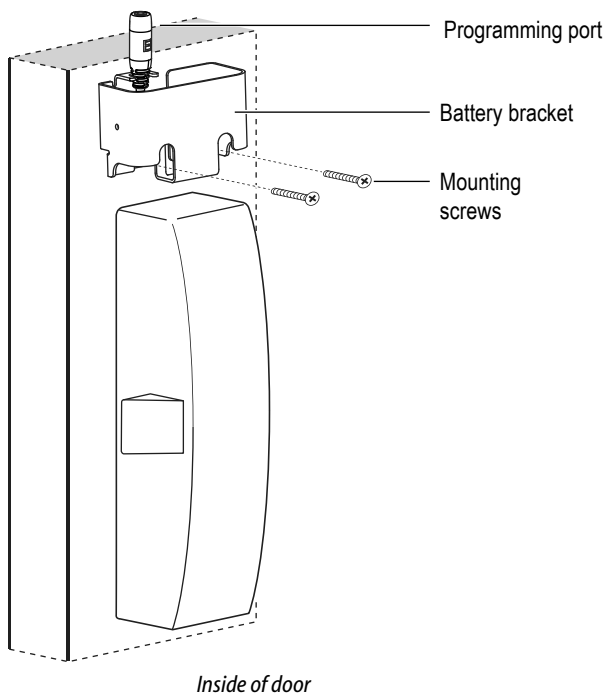

Figure 17 Installing the battery bracket on the door
- 1 Position the battery bracket on the inside of the door as shown in Figure 17.